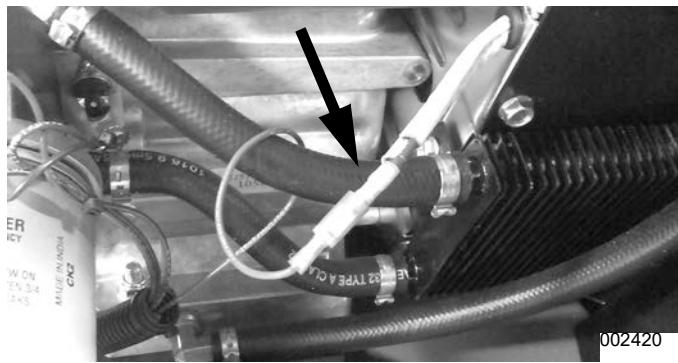

Figure 3-81. Wire 18 Connection
3. See **Figure 3-81**. Back probe Wire 18 harness connector. Do not disconnect this wire.